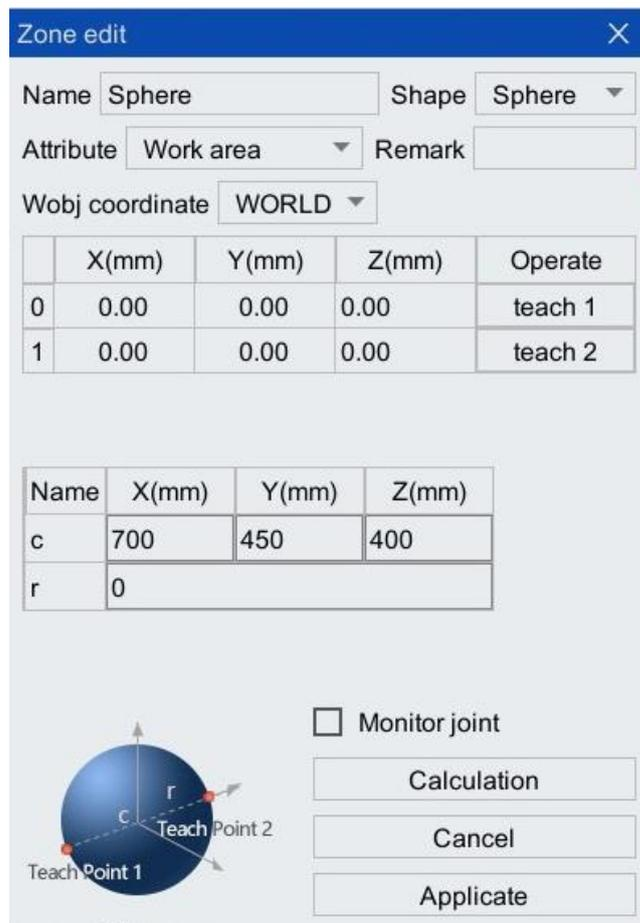

Figure 6-72 Editing interface of working zone "Sphere"
Step2.Setting of work zone. Set a shape named "Sphere" as the working zone of the ball, the coordinate value of the ball center is (700,450,400), and the radius of the ball is 400mm, as shown in Figure 6-72.